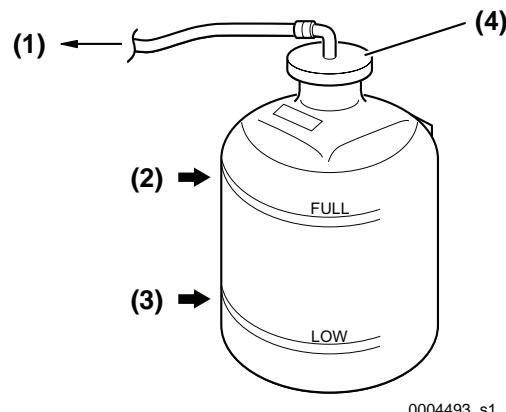

Figure 3-25
5. Check the coolant level in the coolant recovery tank. The level should be at the FULL mark (Figure 3-25, (2)). Add coolant if necessary. **NOTICE: NEVER pour cold coolant into a hot engine.**
6. Remove the coolant recovery tank cap (Figure 3-25, (4)) to add coolant if necessary. **NEVER add water.**
8. Check the rubber hose (Figure 3-25, (1)) connecting the coolant recovery tank to the coolant tank / heat exchanger. Replace if damaged.